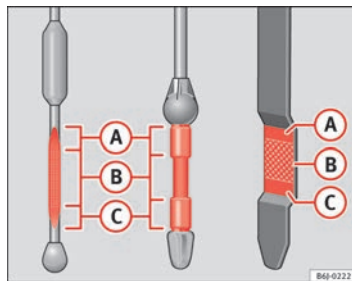

Fig. 163 Engine oil dipstick
- Then pull it out once more and check the oil level ⇒ page 236, fig. 163. Top up with engine oil if necessary.